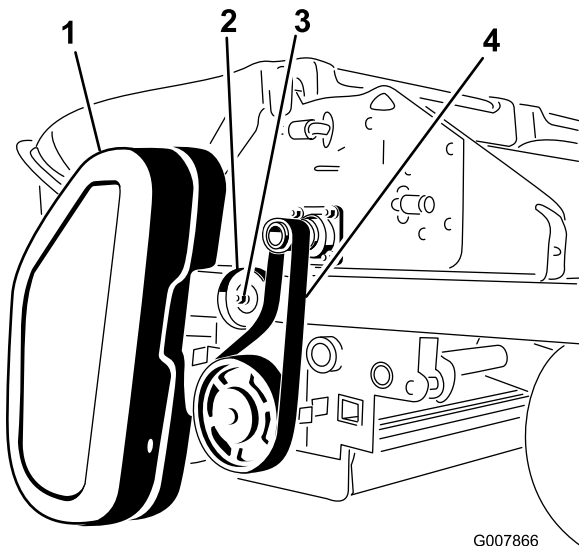

Figure 60
1. Remove the belt cover (Figure 60).
2. Loosen the nut on the idler pulley (Figure 60).
3. Slide the belt off the chopper shaft and brush pulley (Figure 60).